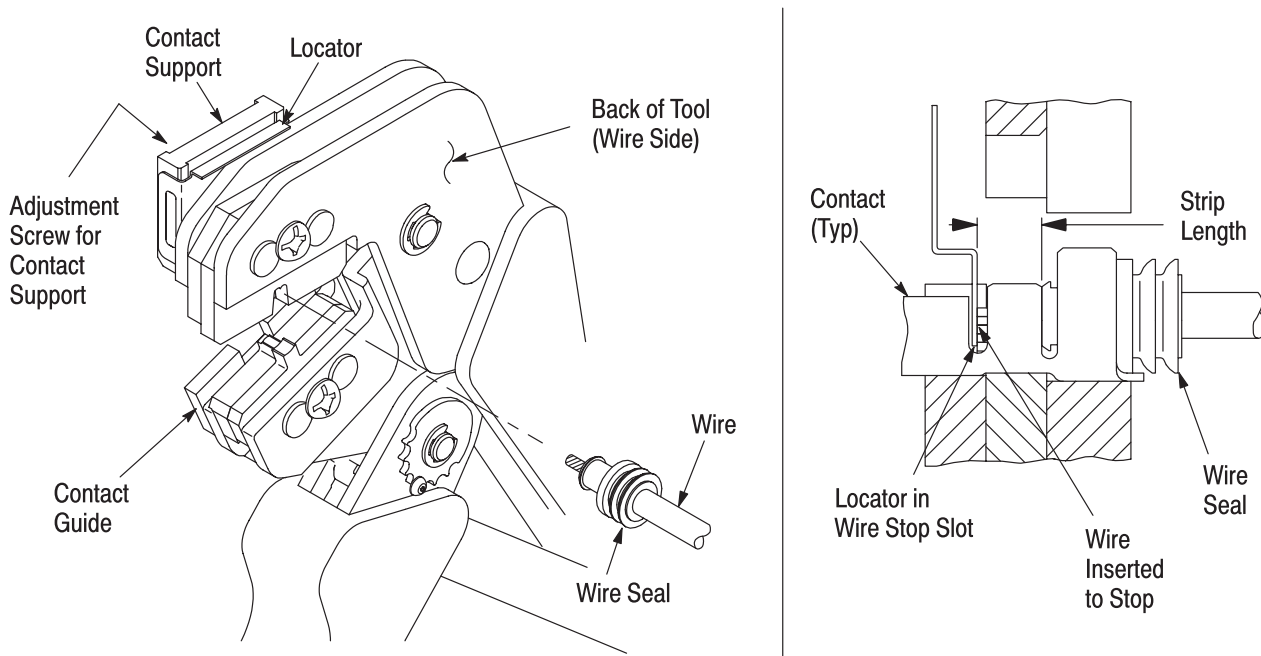

Figure 3
4. CONTACT SUPPORT ADJUSTMENT (Figure 3)
Refer to the table in Figure 1 and select wire of the specified size and insulation diameter. Strip the wire to the length indicated in Figure 1, taking care not to nick or cut wire strands. Select an applicable contact and identify the appropriate crimp section according to the wire size markings on the tool. Refer to Figure 3 and proceed as follows:
3. Position the contact so that the mating end of the contact is on the locator side of the tool, and so that the open “U” of the wire and insulation barrels must face the top of the tool. Place the contact up into the nest so that the movable locator drops into the slot in the contact. Refer to Figure 3. Butt the front end of the wire barrel against the movable locator.
5. Insert stripped wire, with wire seal, into contact insulation and wire barrels until it is butted against the wire stop, as shown in Figure 3.
NOTE The crimped contact may stick in the crimping area, but the contact can be easily removed by pushing downward on the top of the locator (see Figure 3).